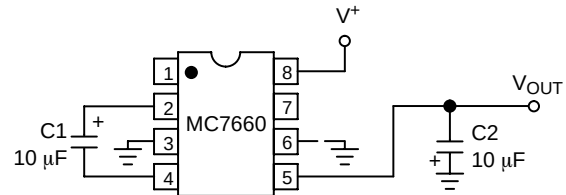
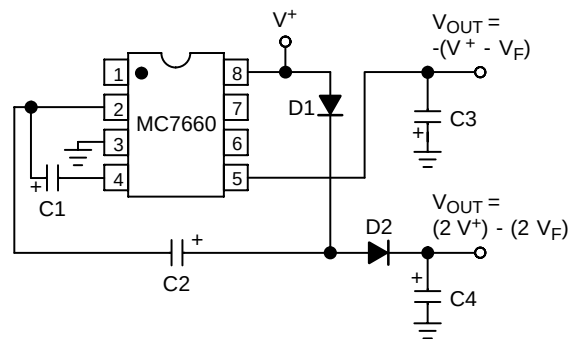
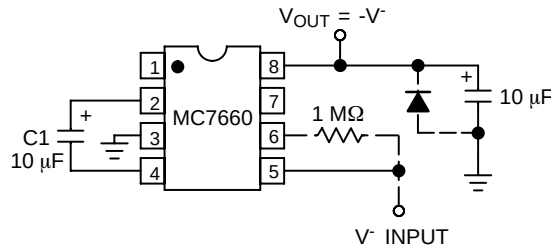
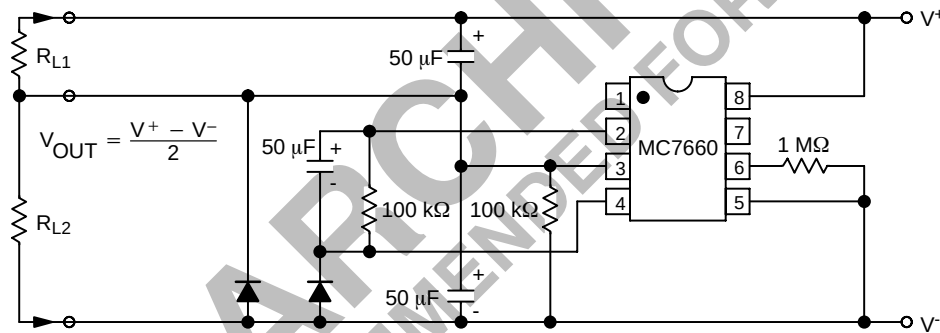

Figure 4. Simple Negative Converter
Figure 10. Combined Negative Converter and Positive Multiplier
Figure 11. Positive Voltage Conversion
Figure 12. Splitting a Supply in Half
Figure 4 shows typical connections to provide a negative supply where a positive supply is available. A similar scheme may be employed for supply voltages anywhere in the operating range of +1.5 V to +10 V, keeping in mind that pin 6 (LV) is tied to the supply negative (GND) only for supply voltages below 3.5 V.
The output characteristics of the circuit in Figure 4 are those of a nearly ideal voltage source in series with 70 Ω. Thus, for a load current of -10 mA and a supply voltage of +5.0 V, the output voltage would be -4.3 V.
Figure 10 combines the functions shown in Figures 4 and 9 to provide negative voltage conversion and positive voltage multiplication simultaneously. This approach would be, for example, suitable for generating +9.0 V and -5.0 V from an existing +5.0 V supply. In this instance, capacitors C₁ and C₃ perform the pump and reservoir functions, respectively, for the generation of the negative voltage, while capacitors C₂ and C₄ are pump and reservoir, respectively, for the multiplied positive voltage. There is a penalty in this configuration which combines both functions, however, in that the source impedances of the generated supplies will be somewhat higher due to the finite impedance of the common charge pump driver at pin 2 of the device.
Since the switches that allow the charge pumping operation are bidirectional, the charge transfer can be performed backwards as easily as forwards. Figure 11 shows a MC7660 transforming -5.0 V to +5.0 V (or +5.0 V to +10 V, etc.). The only problem here is that the internal clock and switch-drive section will not operate until some positive
voltage has been generated. An initial inefficient pump, as shown in Figure 10, could be used to start this circuit up, after which it will bypass the other (D_1 and D_2 in Figure 10 would never turn on), or else the diode and resistor shown dotted in Figure 11 can be used to “force” the internal regulator on.
The same bidirectional characteristics used in Figure 11 can also be used to split a higher supply in half, as shown in Figure 12. The combined load will be evenly shared between the two sides. Once again, a high value resistor to the LV pin ensures start-up. Because the switches share the load in